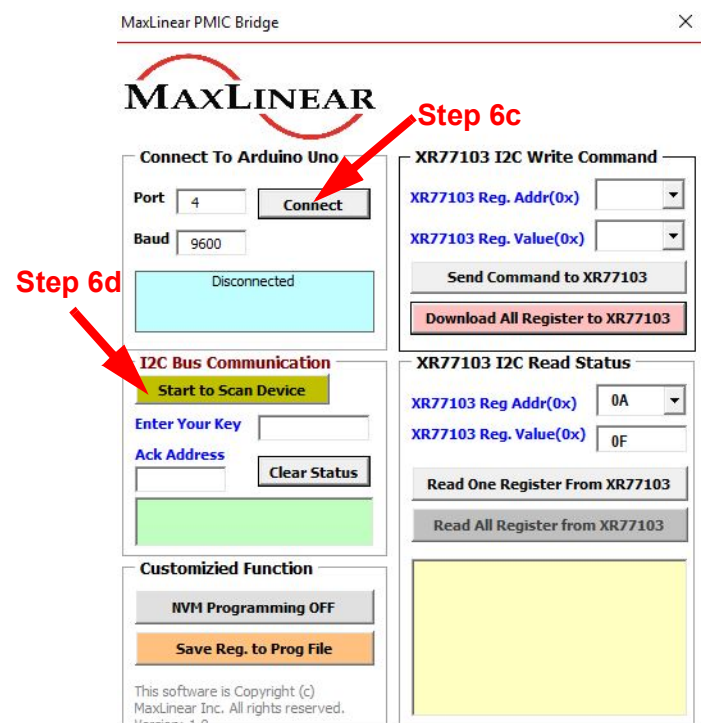

Figure 8: Bridge Application
- b. The bridge SW window should open, see Figure 8.